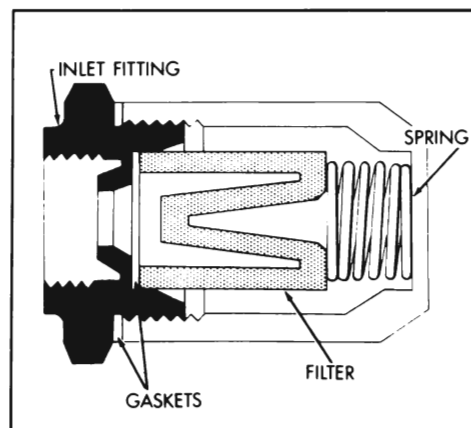

Figure 3-80—Fuel Inlet Filter
11. Install 2 gaskets and filter element in fuel inlet nut. Install filter relief spring in air horn. Install nut and assembled parts into air horn. See Figure 3-80.